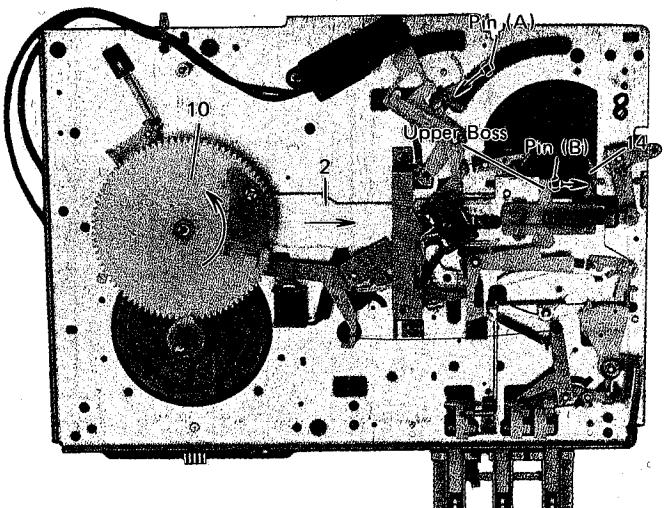

Figure 15
- (3) Main Gear (10) starts turning and slides Return Lever Assembly (2) to right to push back Pin (B) on the Pickup Plate Assembly at the upper boss of Return Lever (2). Pickup Arm returns to the Stand and Lead-in Slider (14) returns up. (Figure 15)